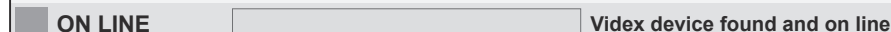

Fig. 128
- **ON LINE:** see **Fig.128**, this indicates that the GSM module has been detected by the PC software and is currently connected.
For checking the current firmware stored in the GSM module or checking the date and time setting ensure that the connection status of the PC software is showing as **ON LINE** (refer to **Fig.128** and follow the notes **GSM panel detection** and **Connecting the Software to the GSM module (ON LINE)** on page 15). Also check the physical connection between the PC and GSM module. In the case of the **GSM4K PRO series**, the **Art.2270 GSM module** and **Digital GSM** this can either be a connection by USB or by RS485 connection and for the **GSMVRK series** USB only (refer to connection diagrams on pages 10 - 13, **Fig.5 - Fig.11**).
ensure that the software shows the connection status is showing as **ON LINE**, refer to **Fig.128**).